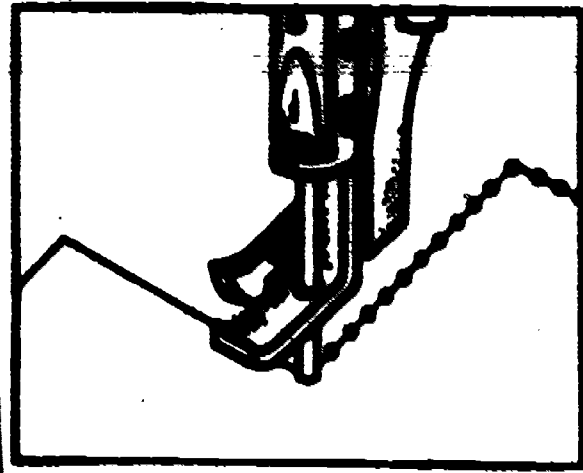

Figure 20. Making Corners.
To turn corners, leave the needle in the paper at the exact point where the turn is to be made, as in figure 20. The needle should go a little past the lowest point and start on the upward stroke to make square corners. This is necessary to complete the lockstitch when sewing with thread to prevent skipped stitches at the corner.
5. Start sewing and continue to sew, making straight lines parallel and uniformly spaced with corners square as shown in figure 20.